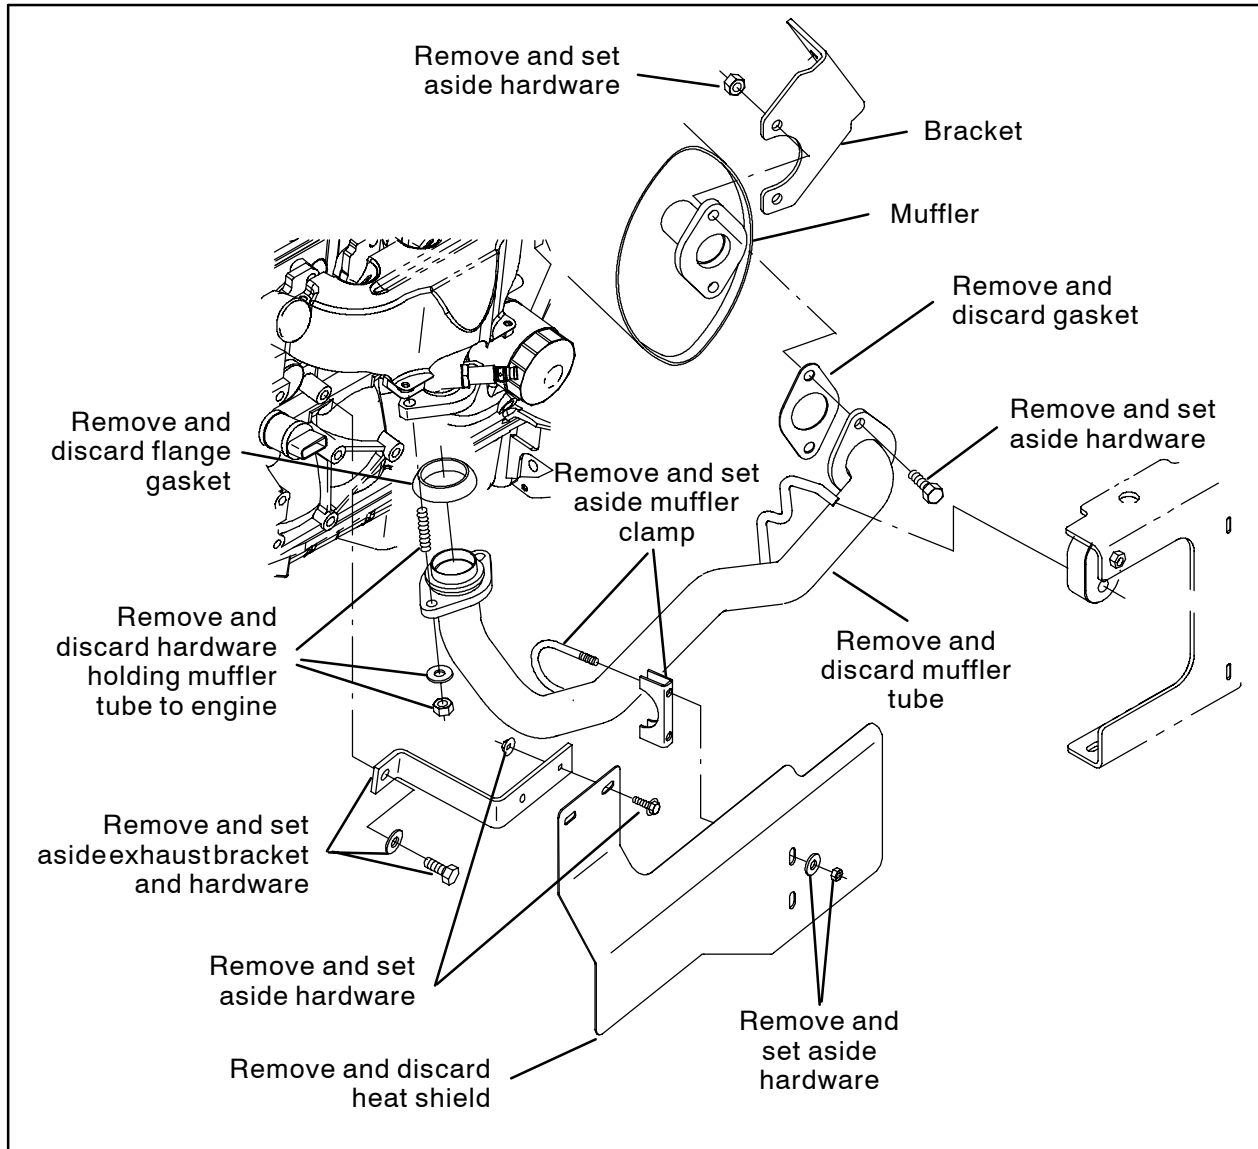

FIG. 1
3. Remove the heat shield from the machine. Set all mounting hardware and muffler clamp components aside. Discard the heat shield. Refer to Fig. 1.
4. Remove the exhaust bracket from the machine. Set the exhaust bracket and mounting hardware aside. Refer to Fig. 1.
5. Disconnect the exhaust tube from the muffler. Set all mounting hardware aside. Discard the gasket. Refer to Fig. 1.
6. Disconnect the exhaust tube from the engine. Discard the flange gasket and all mounting hardware used to secure the exhaust tube to the engine. Refer to Fig. 1.